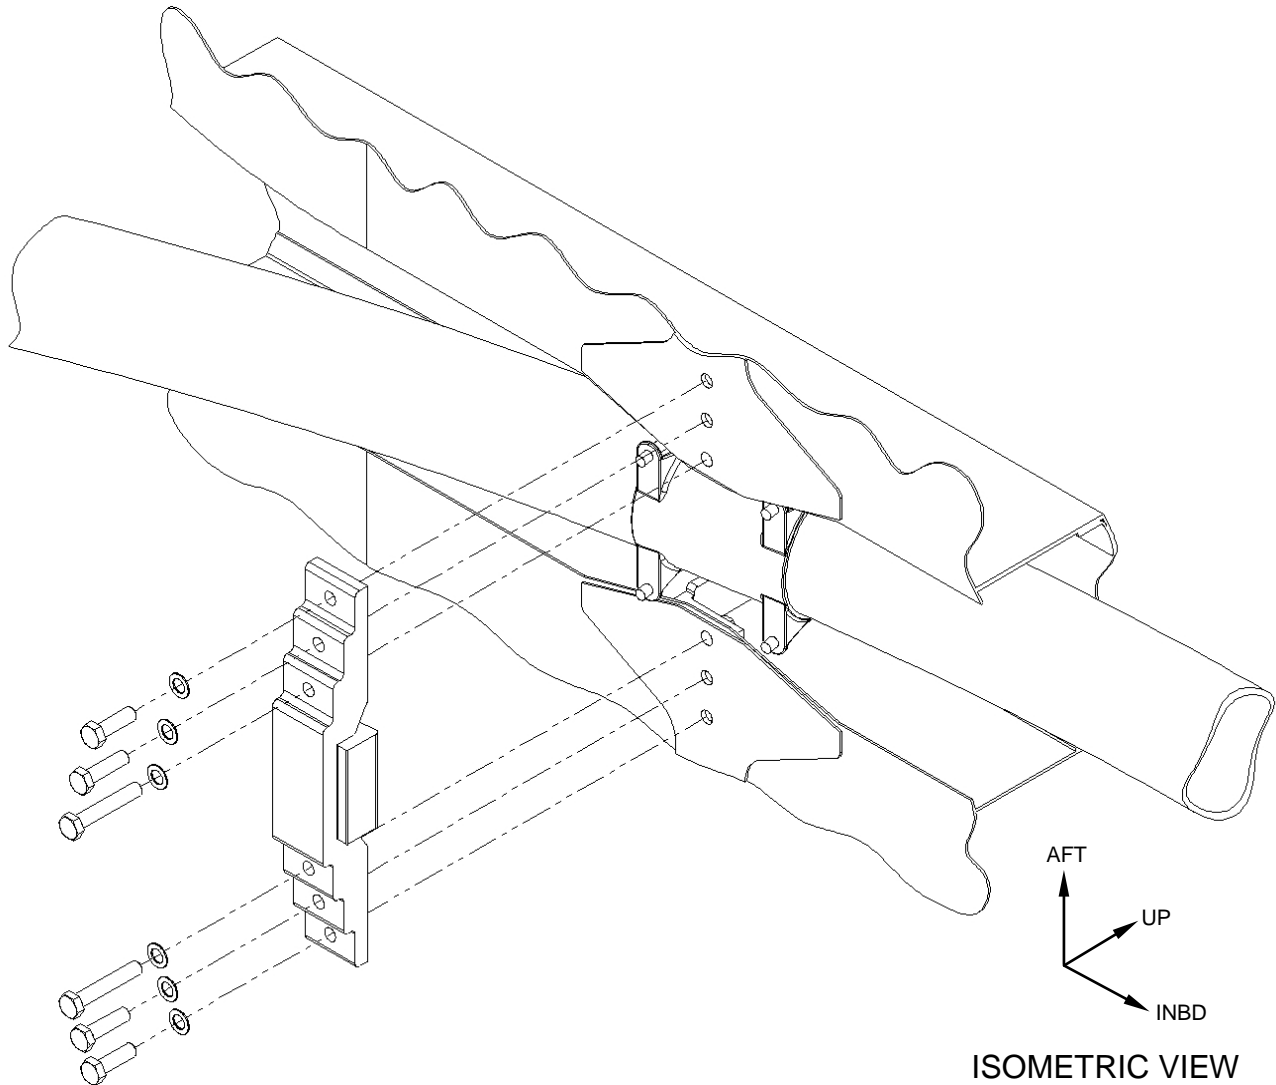

Figure 5
5. Re-install the 6 fasteners holding the Cap, Assy to the FWD cross tube support structure. Reference Figure 5.